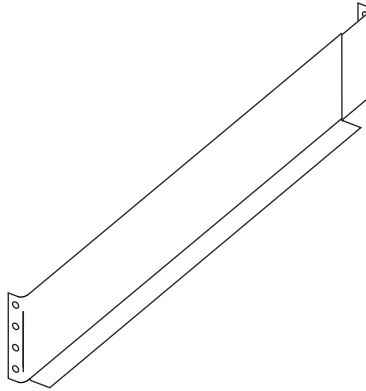

Figure 1-2 FCDE Rack-Mount Rail
1. Locate a pair of FCDE support rails in the rail kit. The rails fit both NEMA and EIA racks. Figure 1-2 shows the rails.